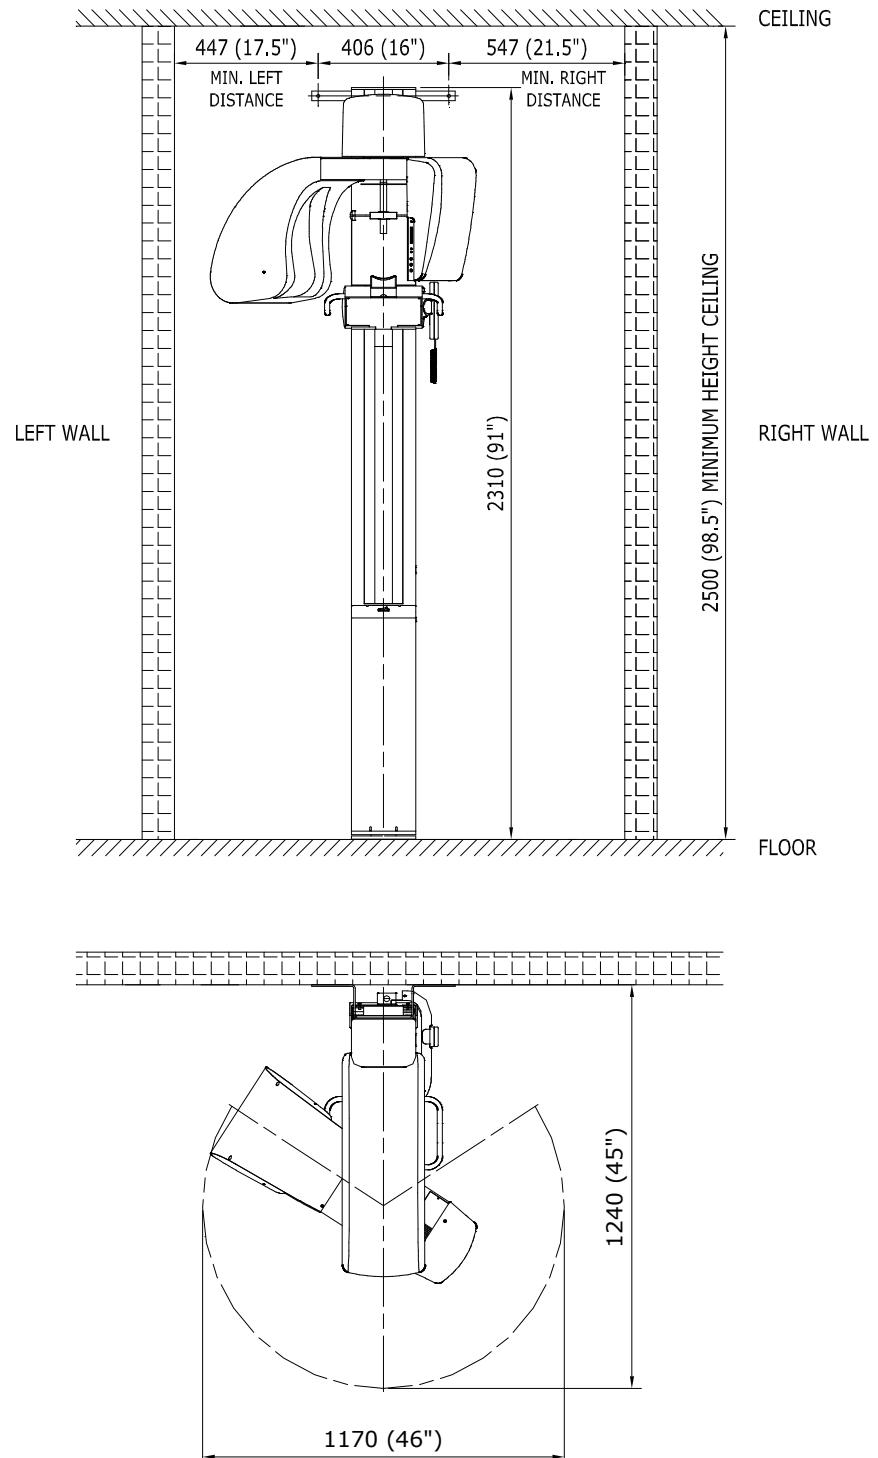

Figure 5-1
- a minimum room ceiling height of 8 ft (2,5 mt) and an area to accept ROTOGRAF-D with its different configuration as showed in Figure 5-1.